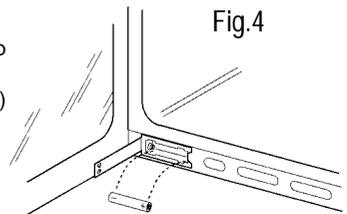

Fig.4
3. Fit the new battery ensuring positive (+) terminal is next to the (+) sign on the battery holder. See Fig. 4